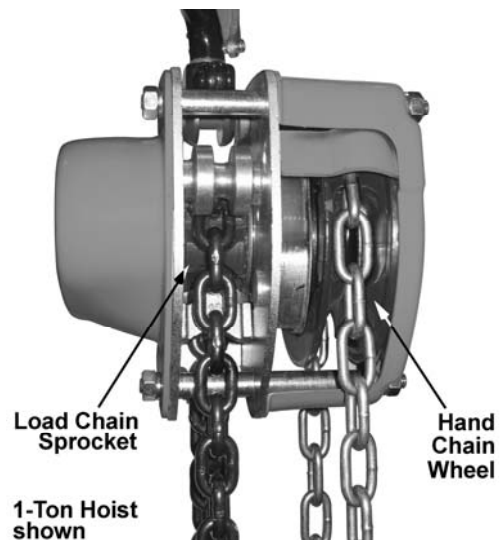

Figure 10
8. If installing entire new chain, insert the end of the hand chain into the groove at the top of the hand chain wheel (see Figure 10). Rotate the hand chain wheel and pull the chain through.
Install the new load chain onto the load chain sprocket as follows, referring to Fig. 10: